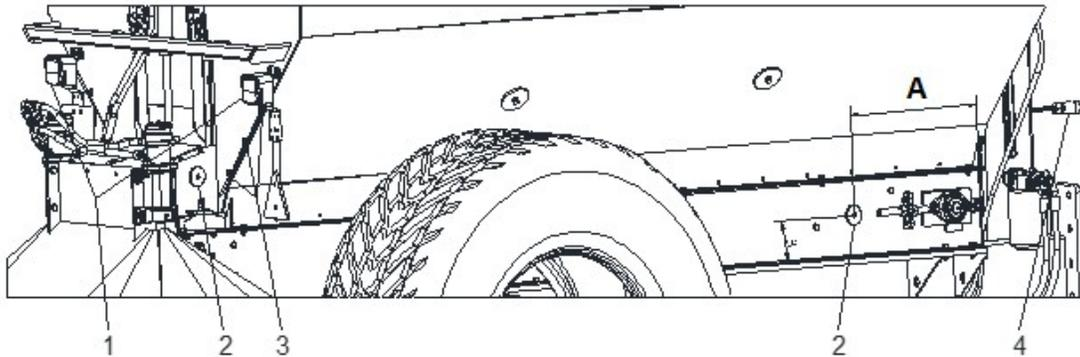

Fig. 24 Mounting the Lightning unit
1. Fastening the reflectors (Fig. 24/2):
Attach to the protective cover and to the belt unit with dimension A (Fig. 24/A) 500 mm (19,69") and dimension B (Fig. 24/B) 120 mm (4,72") at the front on both sides and on the opposite side from the rear using 5x16 blind rivets.
2. Attach the LED lighting unit (Fig. 24/1):
The lighting unit (Fig. 24/1) is secured to the rear wall of the hopper of the disc spreader using hexagon bolts M8x12 and hexagon nuts M8.
3. The electric cable with 7-pin plug (Fig. 24/4) is secured using the fastening clamps (Fig. 24/3) and guided forwards under the wheel cover.
4. The lighting unit is connected to the towing vehicle via a seven-pin plug (Fig. 24/4) for the 12V power supply.